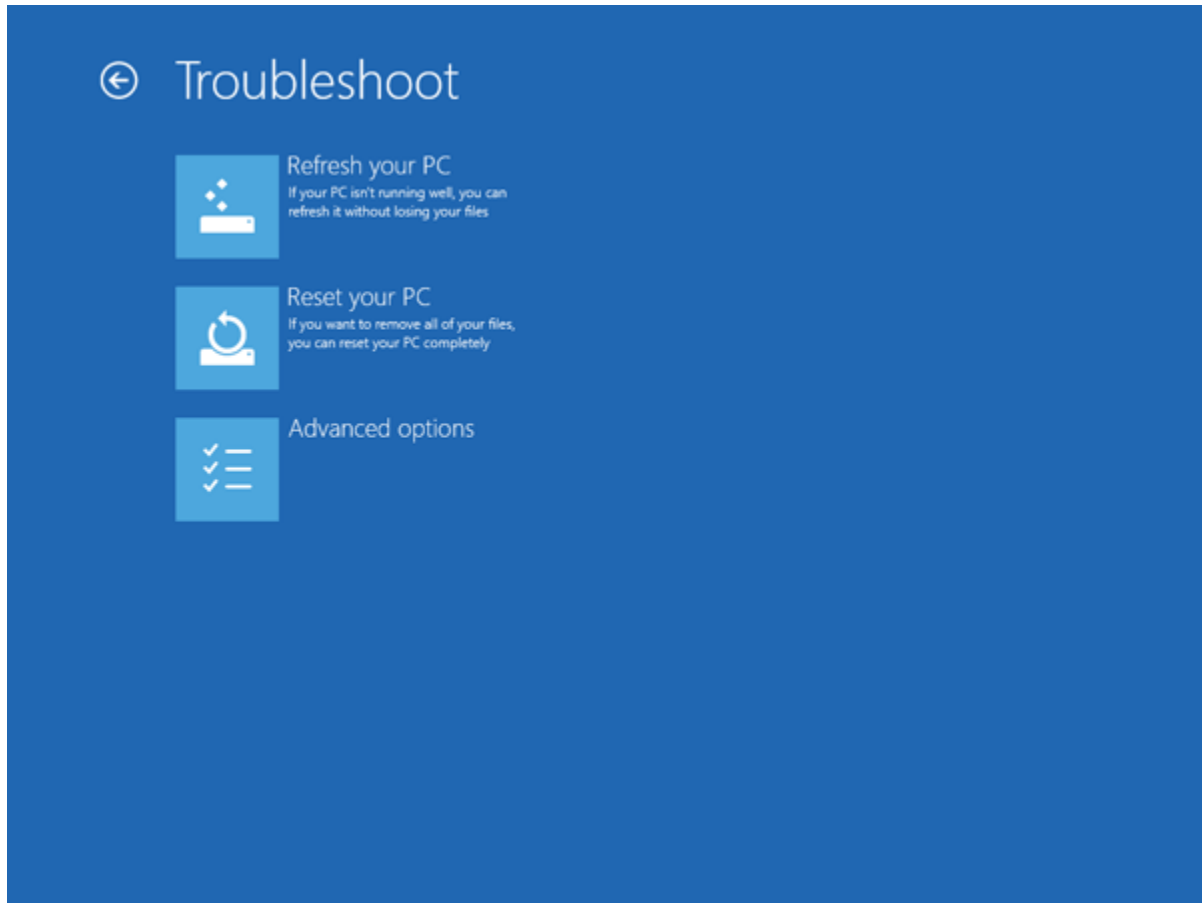

Figure 6.5. Troubleshoot > Advanced options
7. Go to **Advanced Options** (Figure 6.5).